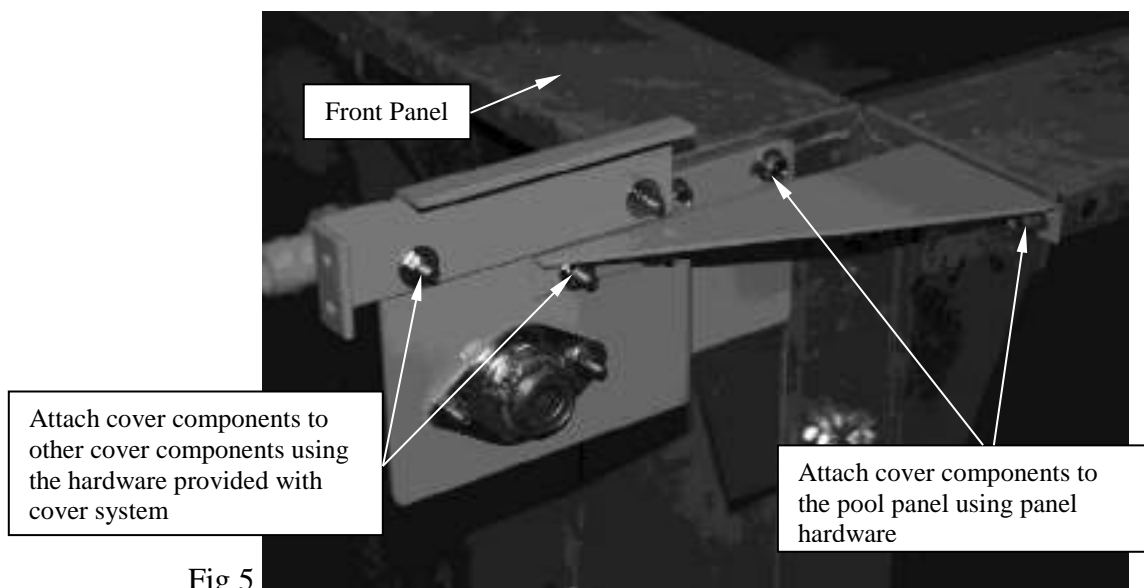

Fig 5
2. **When attaching Automatic Cover parts to the pool use the panel nuts and bolts. When attaching Automatic cover parts to other Automatic parts use the provided hardware.** On the right side of the front panel, remove the top corner angle and install the tube bearing plate, using the nuts and bolts for the pool panel. Do not tighten. (See Fig 5)